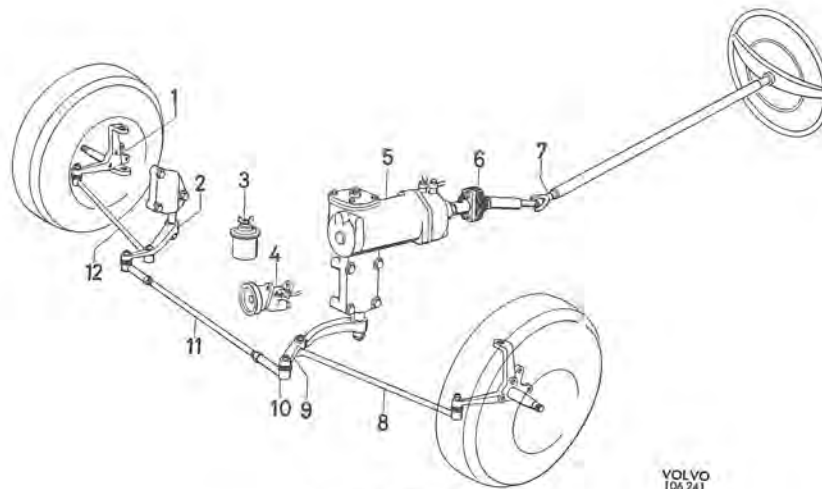

Fig. 6-33. Steering gear
The design of the steering gear is shown in Fig. 6-33. Steering wheel movement is transmitted to the wheels via the steering column (7), the steering box (5), the pitman arm (9), the tie rod (11), the steering rods (8 and 12) and the steering knuckles (1). Steering power is boosted by the power mechanism.
The ball joints of the steering rod are plastic-lined, and this makes maintenance lubrication unnecessary. The tie rod (11, Fig. 6-33) has replaceable ball joints (tie-rod ends) while the ball joints of the steering rods (8 and 12) are made in one piece with the rod.